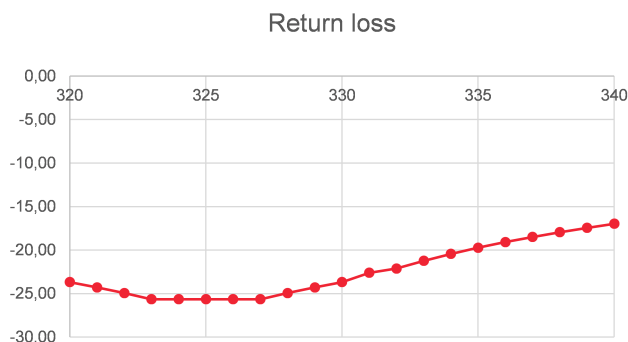

Figure 4-2: Typical return loss at 320 MHz to 330 MHz range
4. Measure the S11 parameter. It should be $\leq -12\text{ dB}$ (see Figure 4-2).
7. Measure the S11 parameter. It should be $\leq -12\text{ dB}$ (see Figure 4-2).